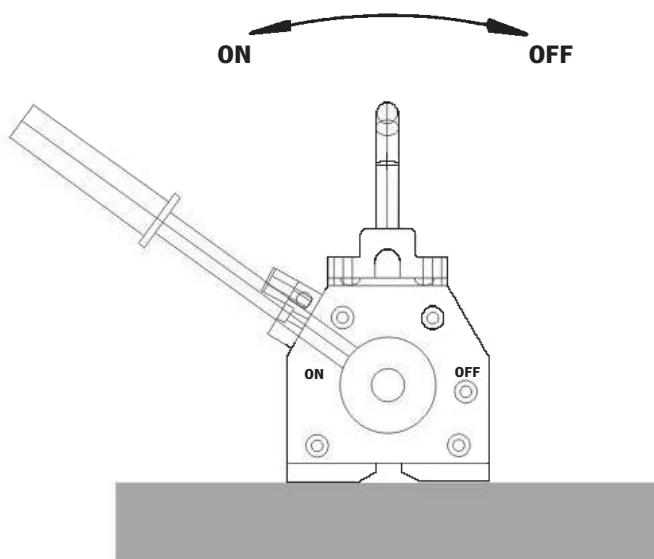
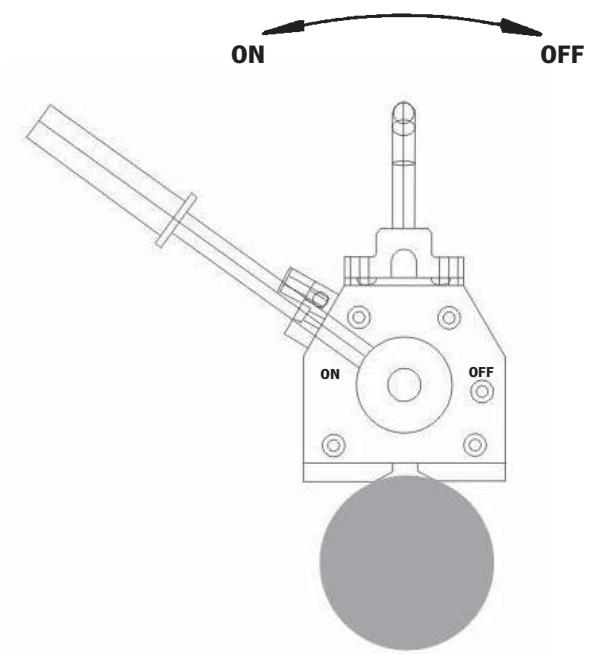

Fig. 1
Fig. 2
- Place the load hoisting tackle in demagnetized lever position "OFF" onto the load material (Fig. 1, Fig. 2).